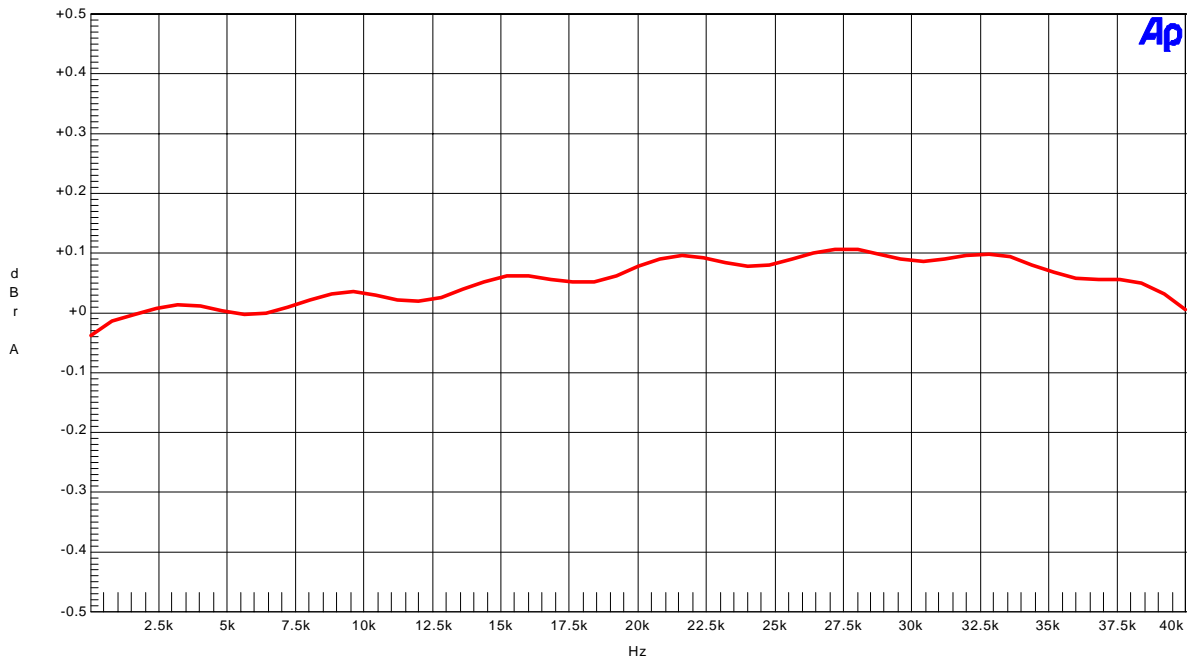

Figure 2-2-4. Frequency response
- Figure 2-2-4. Frequency response